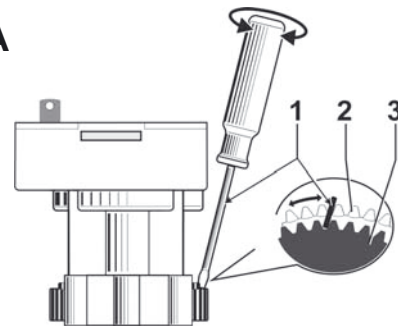

Fig. 12: Adjustment of output current 0 or 4 mA
2. Rotate black positioning wheel (fig. 12, item 3) compared to the white drive gear wheel (item 2) manually or by using a screw driver to adjust the output current